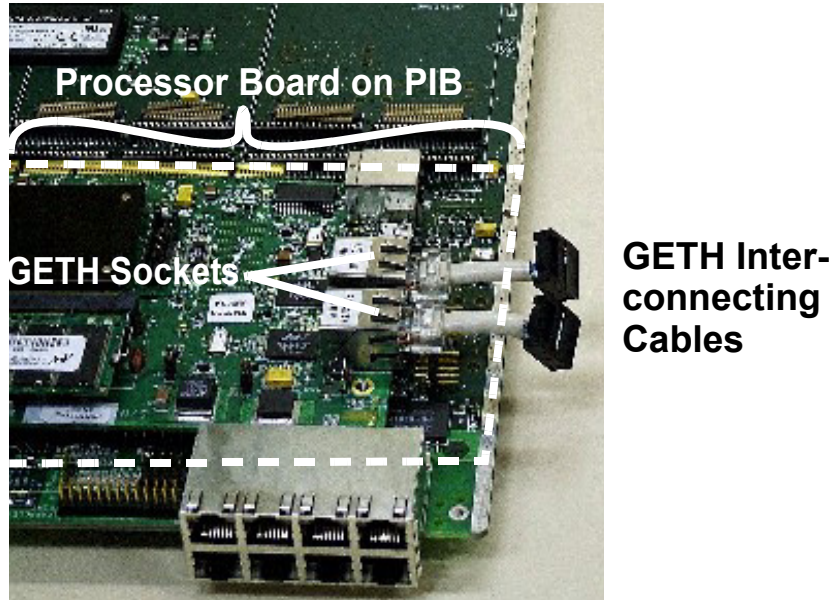
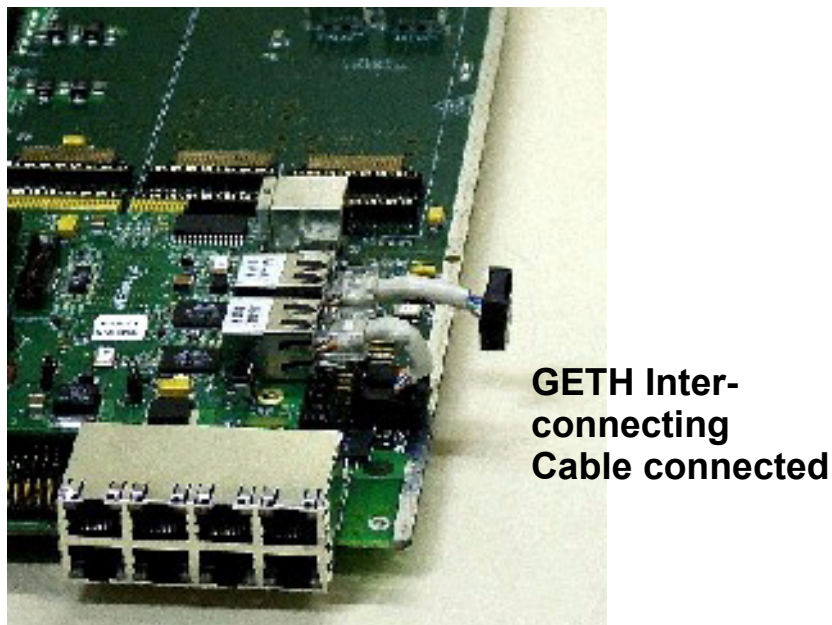

Figure 2-8. Insert GETH interconnecting cables to GETH sockets on Processor board
Figure 2-9. Connect GETH interconnecting cables to sockets on PIB
6. If you will be working with a back plane, and wish GETH signals to traverse either the back plane connection, or the front plane optical connection, connect the two GETH sockets on the MPC8349EA MDS Processor Board with sockets on the PIB board as shown in Figure 2-8 and **Figure 2-9.**